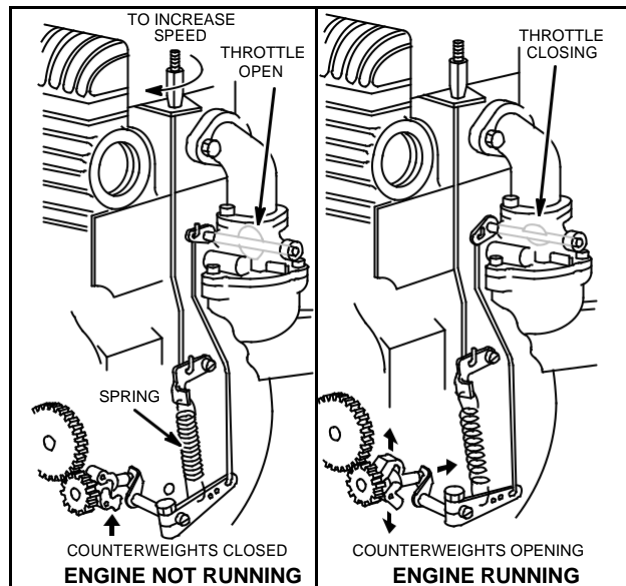

Fig. 315 – MECHANICAL GOVERNOR, TYPICAL
1. **MECHANICAL GOVERNOR.** This is a centrifugal type operated by the cam gear and is linked to the carburetor throttle, Fig. 315.